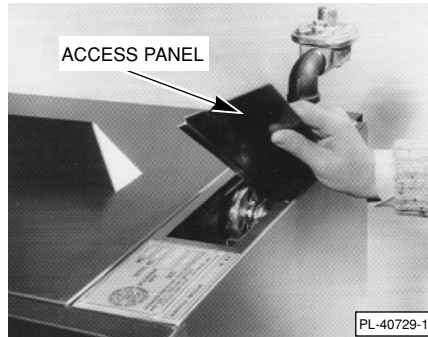

Fig. 10
2. Remove the access panel (Fig. 10).